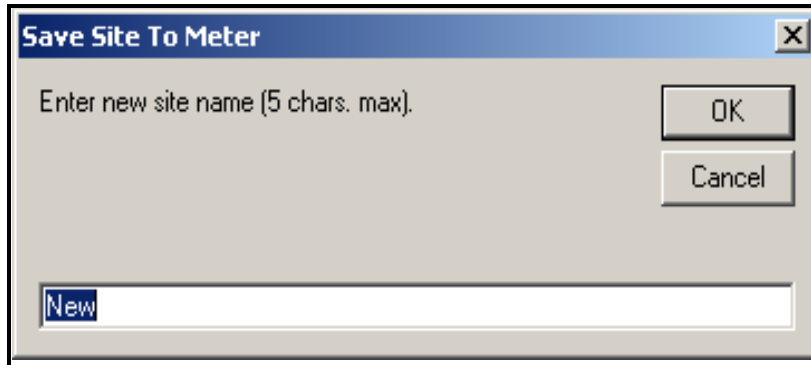

Figure 33: Site Name Entry Window
2. A window opens similar to Figure 33 below. Enter the desired name, and click [OK].